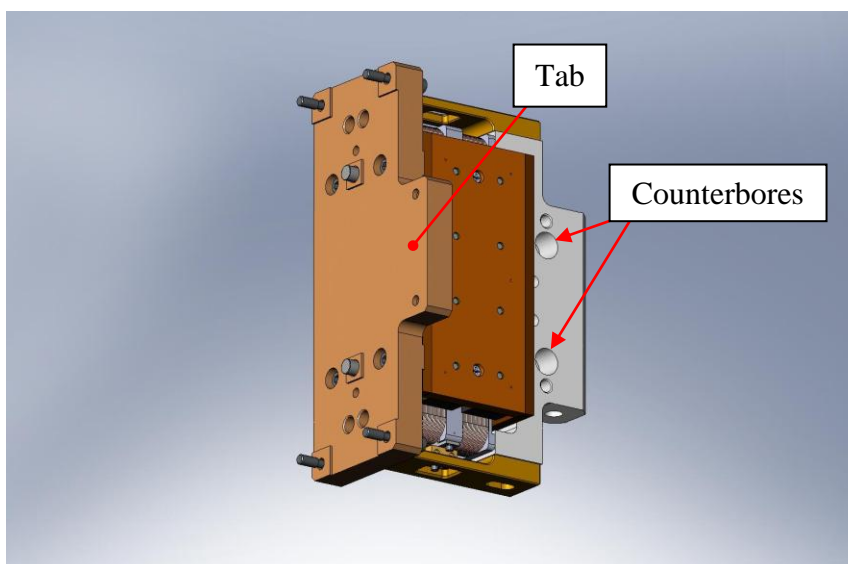

Figure 3.20. Actuator Magnet Mount bolted to Field Assembly. Note (2) counterbores in Coil Support face in same direction as tab on Magnet Mount.
- Mate **Actuator Magnet Mount** to **Field Assembly**, allowing dowel pins to slip into hole and slot in **Actuator Magnet Mount**. Proper orientation of parts is shown in Figure 3.20. Start hardware into tapped holes in **Field Assembly**. Torque to final spec.